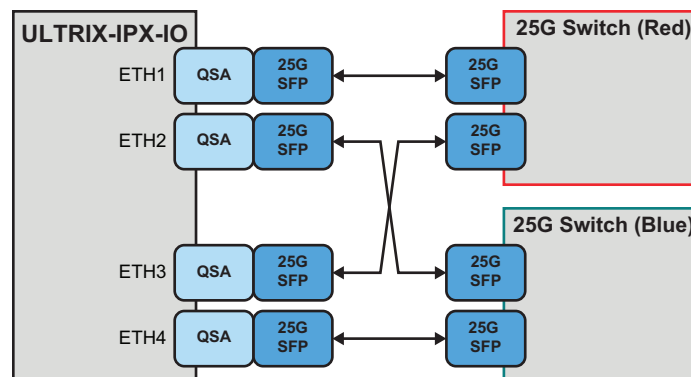

Figure 39 Workflow — QSA/SPF to SFP (25G Switches)
**Figure 39** shows a simplified workflow where the ULTRIX-IPX-IO provides bi-directional communication via four QSA (QSFP to 25G SFP adapter) using fiber cables connected to two 25G ethernet switches.